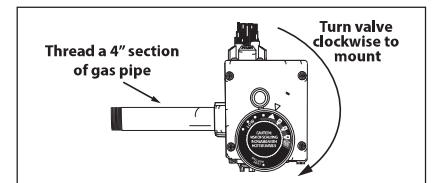

Figure 54 - Installing New Gas Valve
**1** Install the new gas control valve/thermostat into the water heater by threading a 4" section of gas pipe into the gas inlet side of the gas control valve/thermostat. Install the valve to the water heater by turning the gas control valve/thermostat clockwise until snug (See Figure 54).